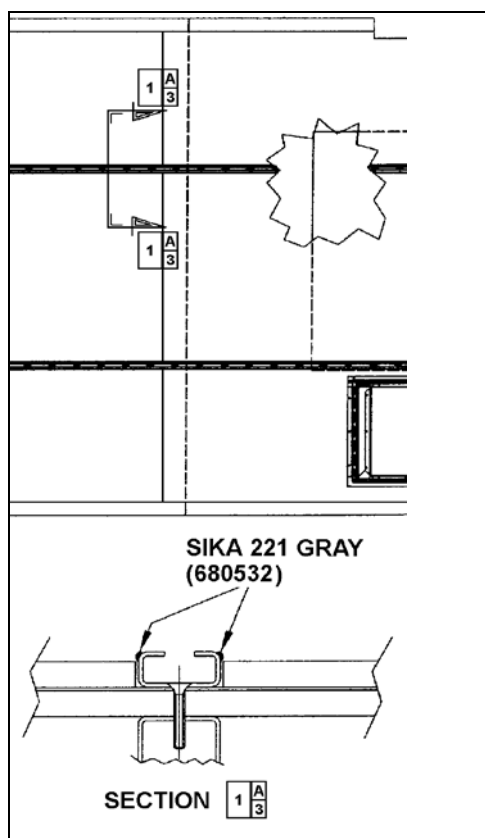

FIGURE 35: APPLICATION OF SIKA 221 GRAY
8. Apply Sikaflex 221 gray sealant (680532) alongside passenger seat fixing tracks (refer to Figure 35).